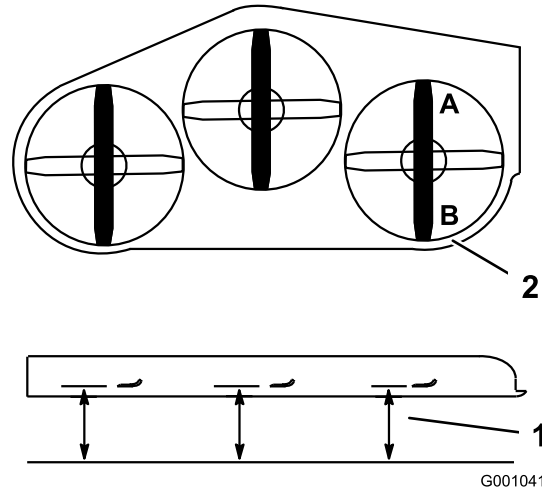

Figure 64
1. Position the right blade front-to-rear (Figure 64).
2. Measure the right blade at the **A** location, from a level surface to the cutting edge of the blade tip (Figure 64).
4. Measure the right blade at the **B** location, from a level surface to the cutting edge of the blade tip (Figure 64).
6. The mower blade should be a 1/4 to 3/8 inch (6 to 10 mm) lower at position **A** than at position **B** (Figure 64). If it is not correct, proceed to the following steps.